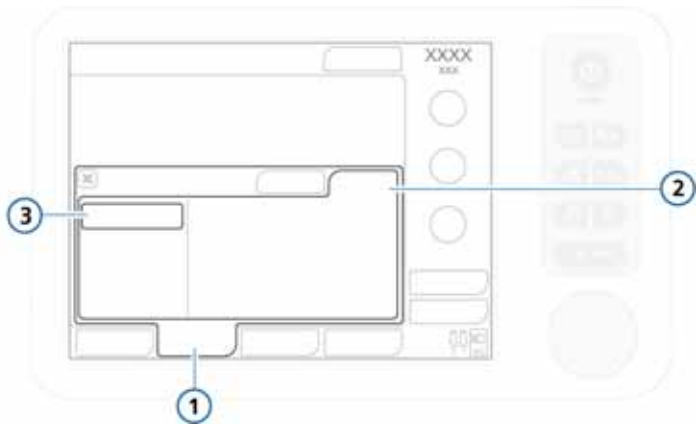

Figure 4-6. Data transfer window 1
2. Open the **Utilities** -> **Data transfer** window (Figure 4-6), and select **Export logs**.